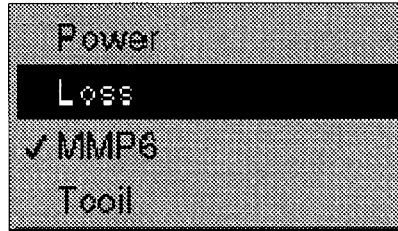

Fig.15. Application type selections
- Select the type of commands to be added by selecting it from the window named **applications**. Different options available in this window are shown in Fig. 15.